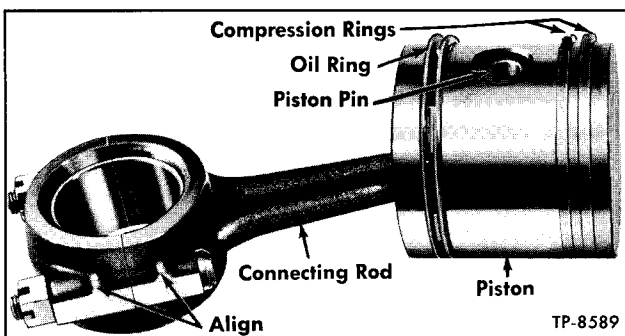

Figure 7—Piston and Connecting Rod Assembly
3. Install compression and oil rings on pistons. Three rings are used on each piston, two compression rings at top and one ventilated oil ring at bottom (fig. 7).
3. Turn the assembly over and position connecting rods on crankshaft journals, making sure bearing halves are in place. Install connecting rod bearing caps and bearing halves, matching bearing cap and rod as shown in figure 7. Install nuts on connecting rod bolts. Tighten to 5 to 8 foot-pounds torque and secure with new cotter pins.